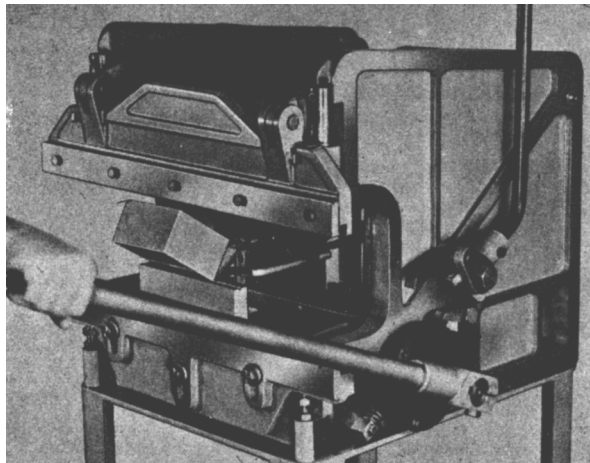

Figure 2
2. Pull handle down until desired bend is reached (figure 2).